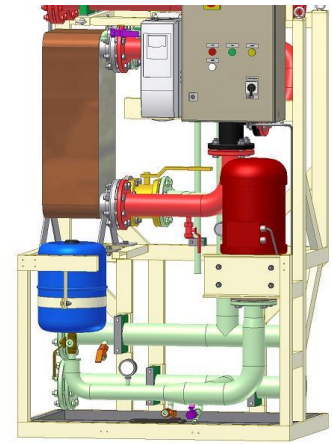

Figure 5.1-10
- Valves V161...V162    open (violet colour in Figure 5.1-10)
- Valve V160            lever down (brown colour in Figure 5.1-10)
- Valve V140            closed (yellow colour in Figure 5.1-10)
- Valves V230, V232    closed (orange colour in Figure 5.1-10)